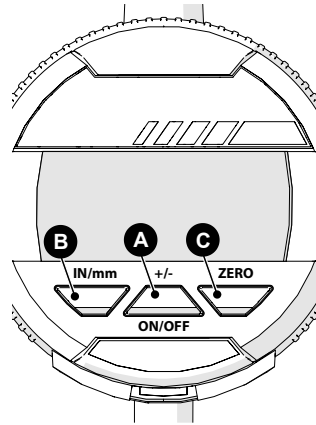
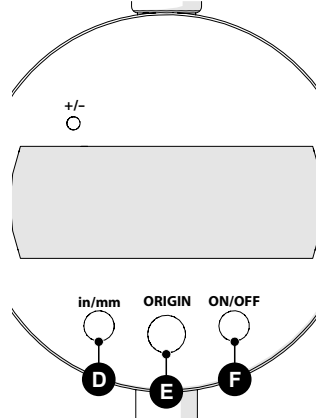

Fig. 1: Digital indicator
Fig. 2: Digital indicator
2.1. Starrett Digital Indicator (Fig. 1)
2.2. Mitutoyo Digital Indicator (Fig. 1)
- ▶ Place the PIT GAGE on a known flat surface. Press the zero/origin button (Fig. 1-C) (Fig. 2-E) holding the PIT GAGE in place for 2 seconds.